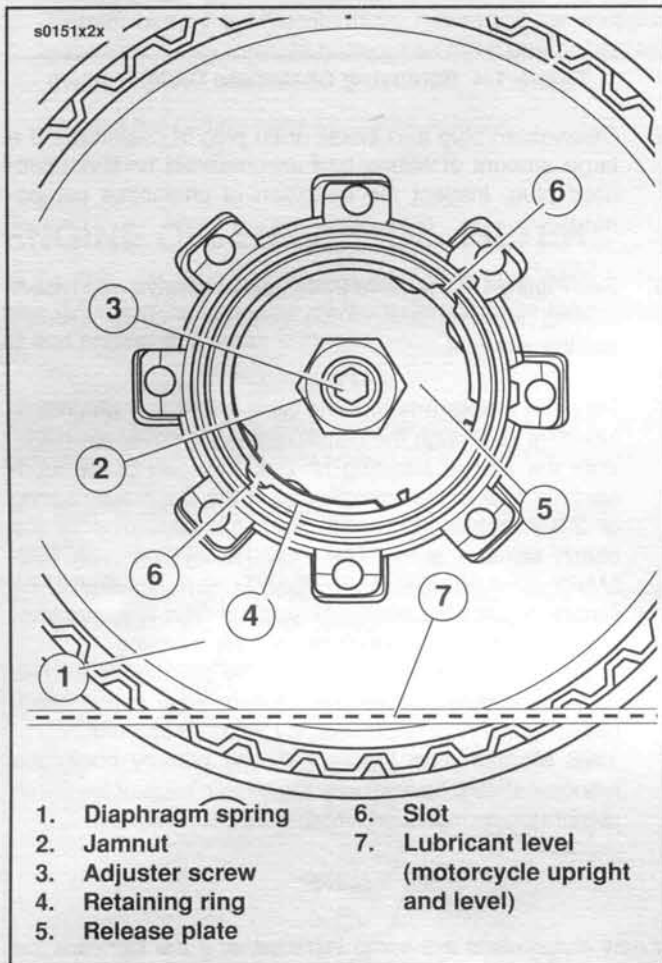

Figure 1-5. 1997 Models Primary Chaincase Lubricant Level
1997 Models: See Figure 1-5. The primary chaincase lubricant should be level with bottom edge of the clutch diaphragm spring, approximately 32 oz. (946.4 ml).
The clutch adjustment should be performed with the motorcycle at room temperature. See Figure 1-5. The clearance at the adjuster screw (3) will increase as the power train temperature increases. If adjuster screw is adjusted with power train hot, clearance at push rod bearing could be insufficient with power train cold and clutch slippage could occur.